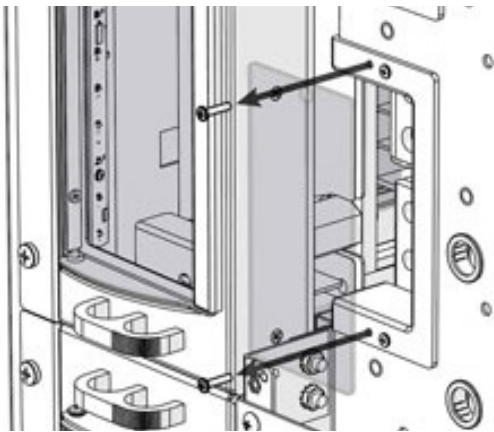

Figure 36. HOT Jumper Access Panel
- Step 2. Remove the hot jumper access panel by removing the two #6-32 screws (see Figure 36).